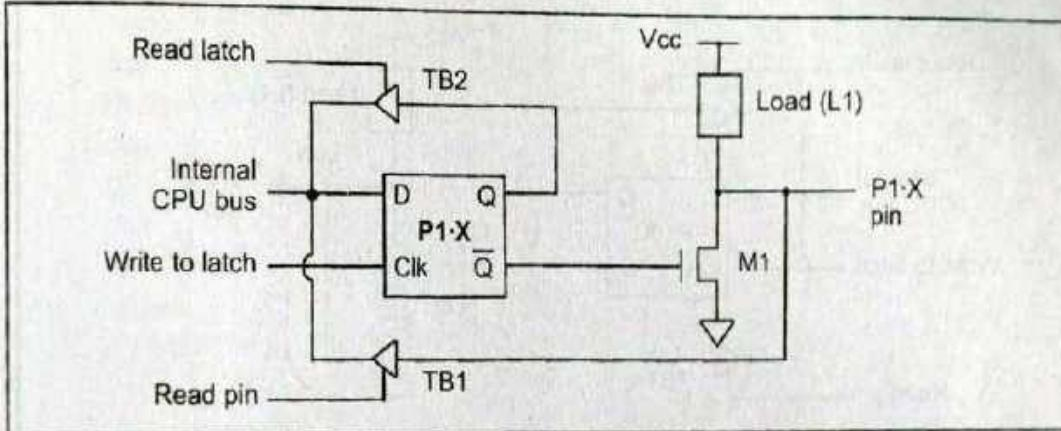

Figure C-10. 8051 Port 1 Structure
Figure C-10 shows the structure of P1 and its three components. The other ports, P2 and P3, are basically the same except with extra circuitry to allow their dual functions (see Chapter 14). Notice in Figure C-10 that the L1 load is an internal load for P1, P2, and P3. As we will see at the end of this section, that is not the case for P0.
Also notice that in Figure C-10, the 8051 ports have both the latch and buffer. Now the question is, in reading the port, are we reading the status of the input pin or are we reading the status of the latch? That is an extremely important question and its answer depends on which instruction we are using. Therefore, when reading the ports there are two possibilities: (1) reading the input pin, or (2) reading the latch. The above distinction is very important and must be understood lest you damage the 8051 port. Each is described next.